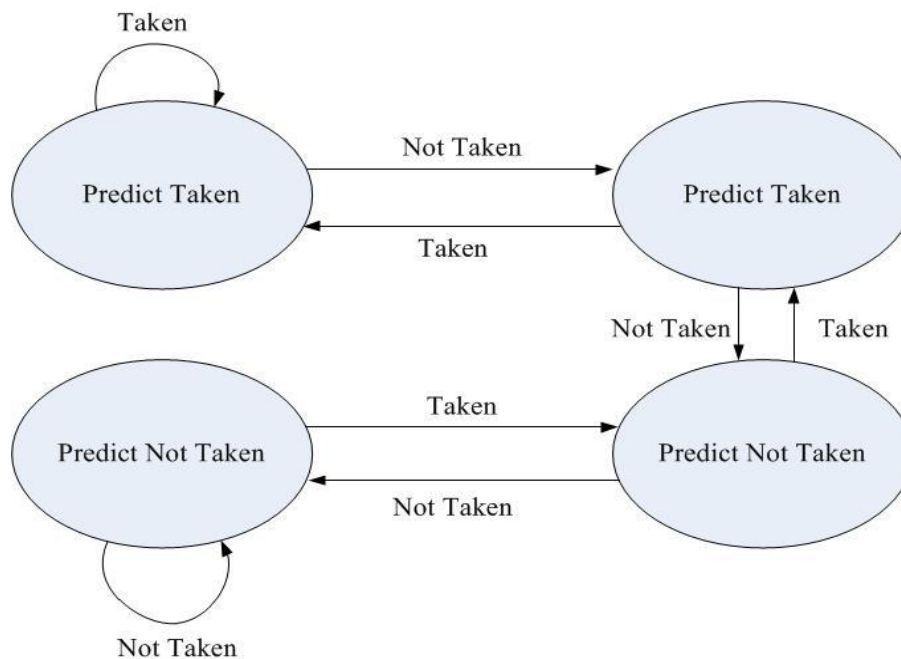

Figure 1: State Machine of 2-bit branch predictor
2) (3 pts.) What is the accuracy of the two-bit predictor **for the first four** branches in this pattern, assuming that the predictor starts off in the bottom left state (predict not taken) from Figure 1, or Figure 4.63 from the textbook (4th edition).